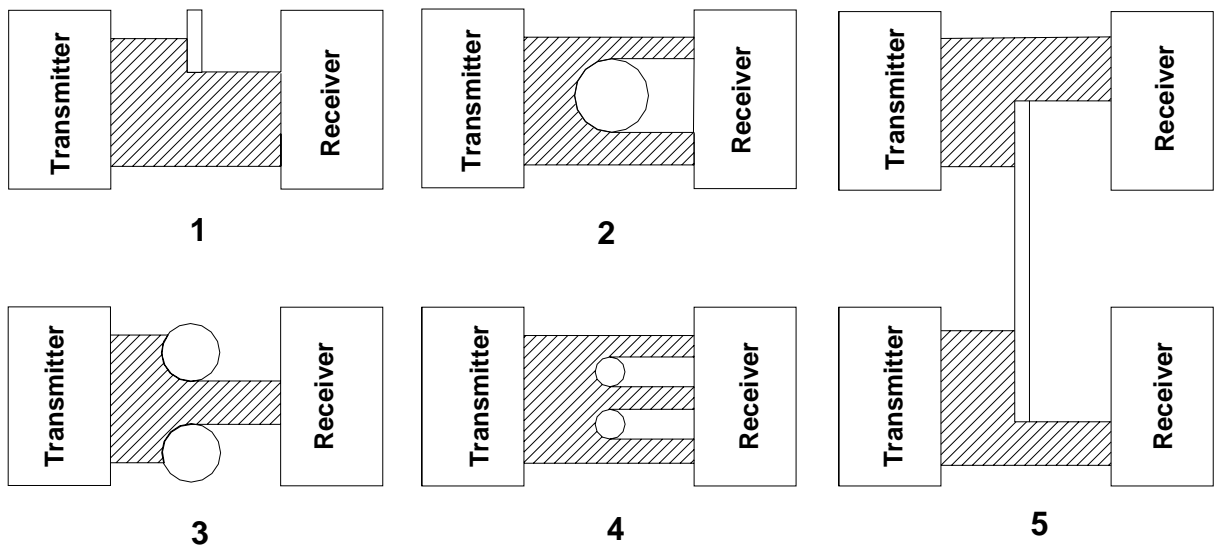

Figure 2.
4.2. Ways of using the micrometer for gauging of technological objects are shown in Fig. 2. Fig.2.1 – measuring of the edge position; Fig.2.2. – measuring of size or position; Fig.2.3. – measuring of the gap value or position; Fig.2.4. – measuring of internal or external dimension; Fig.2.5. – measuring of the size or position of large-size objects.